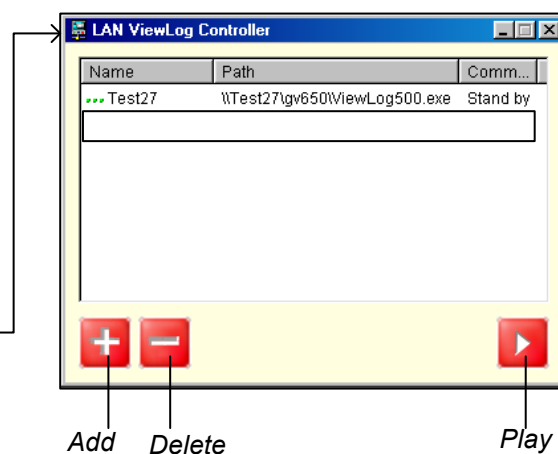

Figure 4-39-2
1. At the local computer, execute **LANViewLogCtrl.exe** to bring up the LAN ViewLog Controller window (Figure 4-39-2).